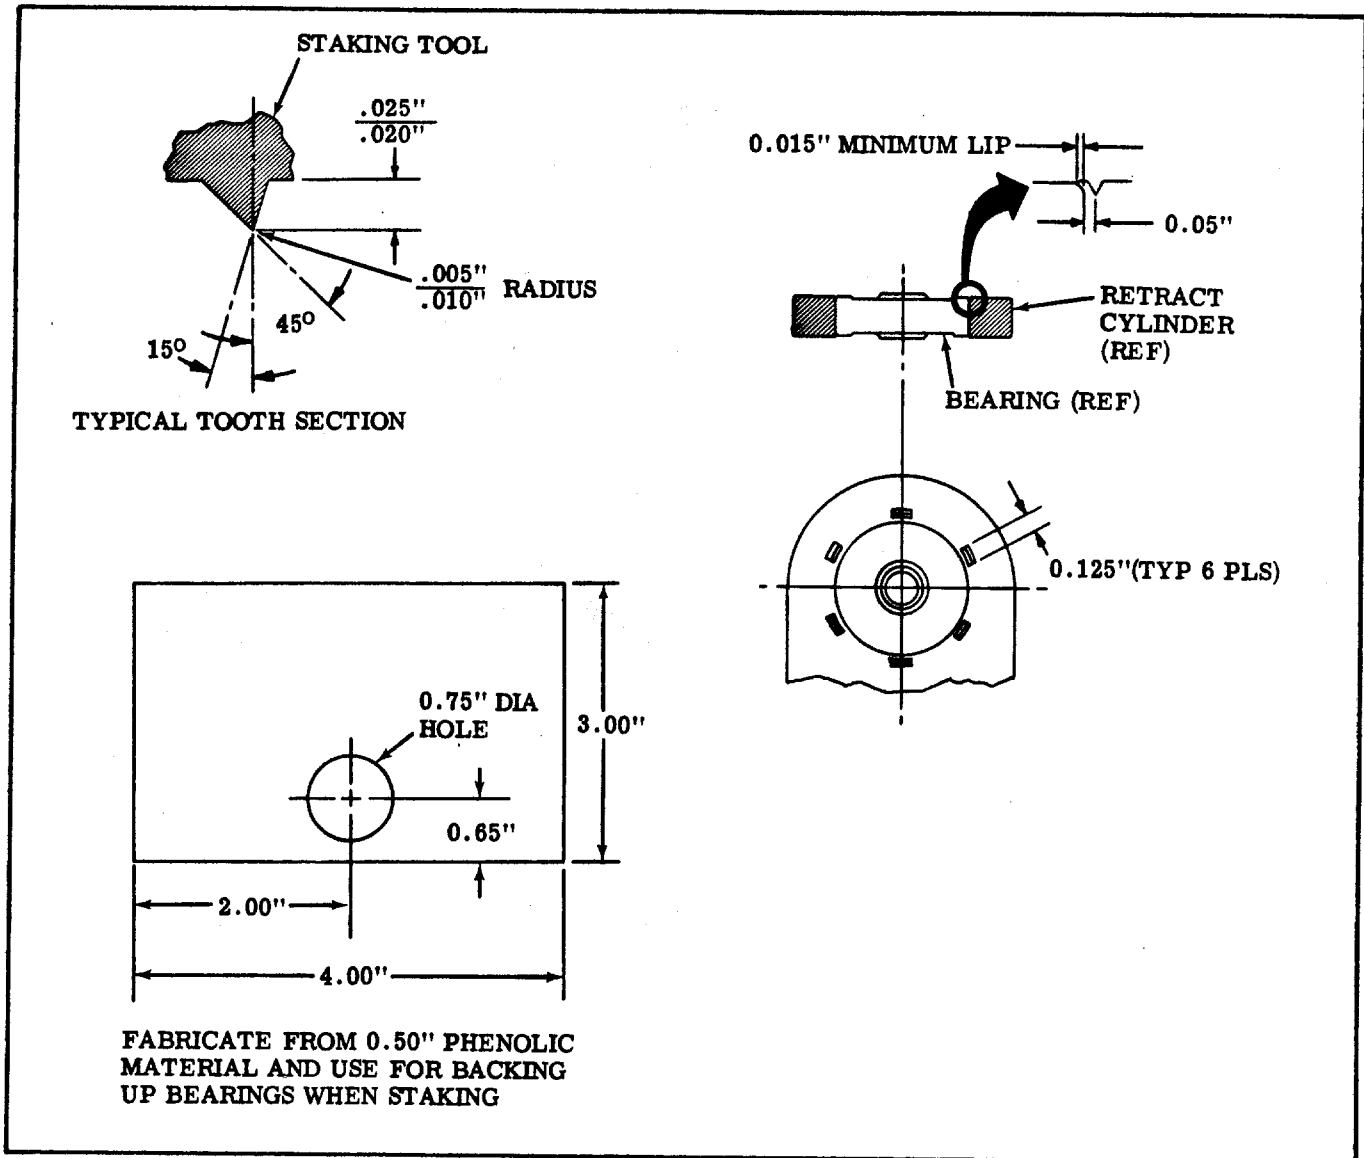

Figure 3.
- b. Inspect cylinder end plug bearings to assure that the bearings are properly staked as shown in Figure 3.
- d. If bearings are not properly staked, hand stake bearings six (6) equal spaces around bearing (see Figure 3.) using a staking tool that conforms to dimensions shown in Figure 3.
Fabricate a block from 1/2-inch phenolic material for backing up bearing when staking (see Figure 3.).